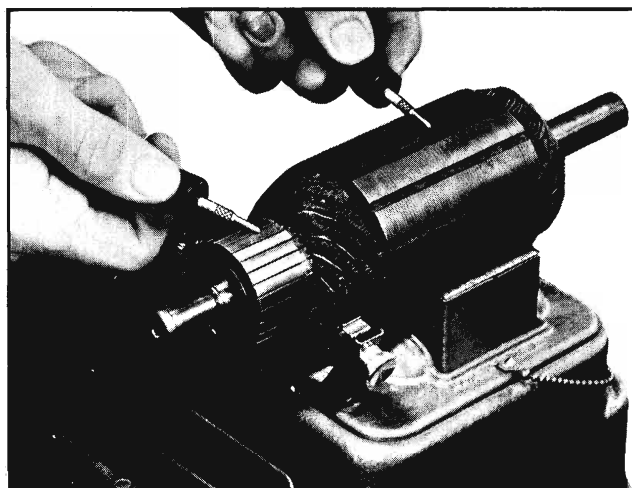

Fig. 11-21 Testing Armature for Ground
c. Using a 110-volt test lamp, place one lead on armature core and other on commutator. If lamp lights, armature is grounded and must be replaced (Fig. 11-21).